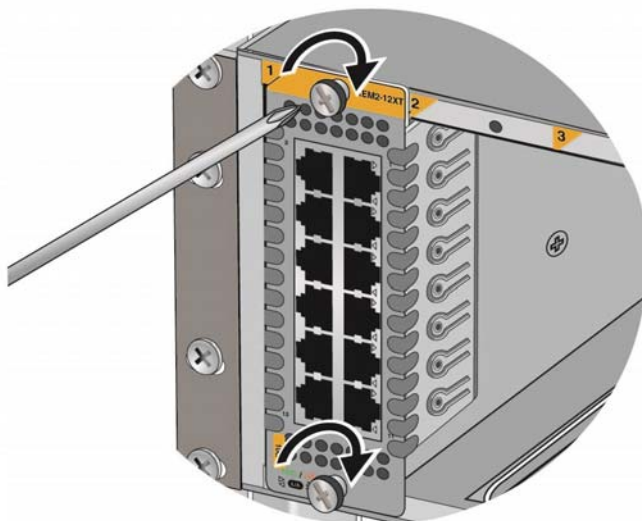

Figure 46. Tightening the Two Captive Screws on the Ethernet Line Card
7. Tighten the two captive screws on the card to secure it in the chassis. Refer to Figure 46.